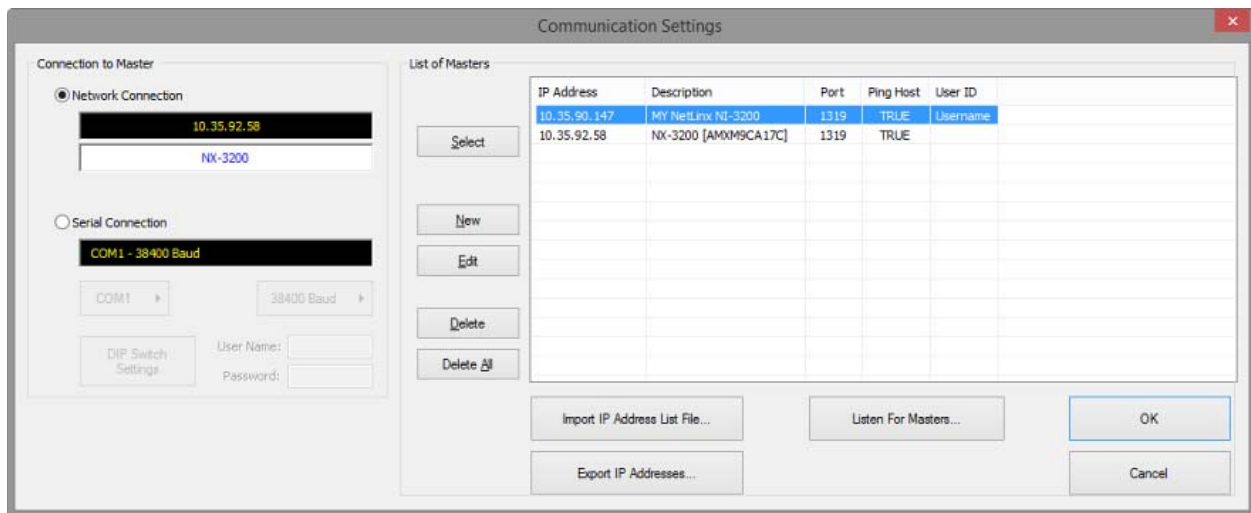

FIG. 15 Communication Settings dialog (indicating a new NetLinx Master)
- Fill in the fields in this dialog and click **OK** to close the dialog and add the new Master to the *List of Masters* in the *Communication Settings* dialog (FIG. 15):